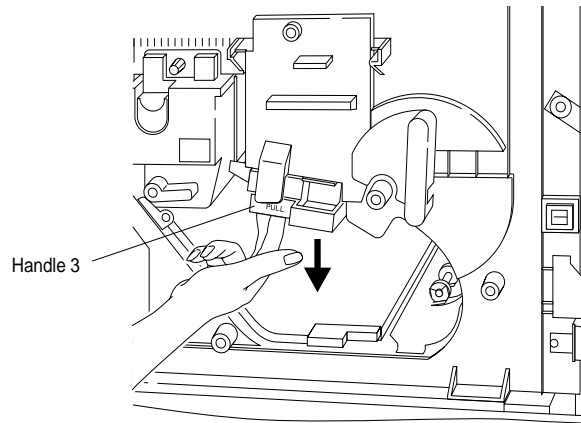

Figure 5-6 Handle 3 and Transfer Assembly Guide
2. Pull out gently on Handle 3 to unlatch and release the transfer guide. Gently lower the transfer guide and let it rest on the bottom of the printer's interior. See Figure 5-6.